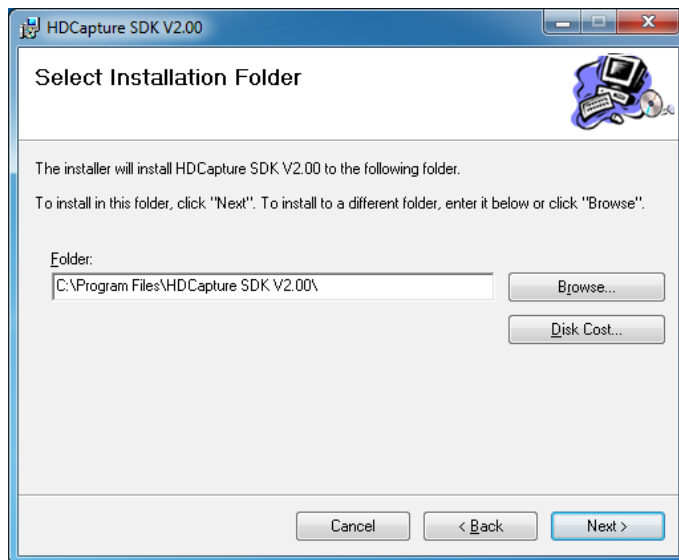

Figure 1-11: Select Installation Folder
Step 4: Select a folder for HDCapture installation in **Figure 1-11**. Click **Next** to continue.